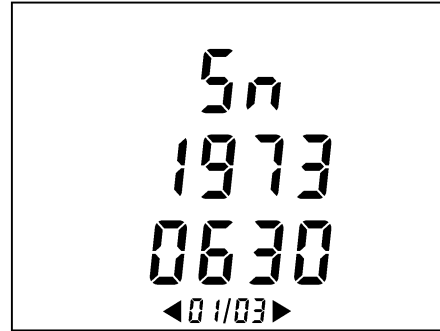

Figure 65: Appliance serial number (page 1/3).
- The appliance serial number (*Sn* = *Serial Number*) (Figure 65).